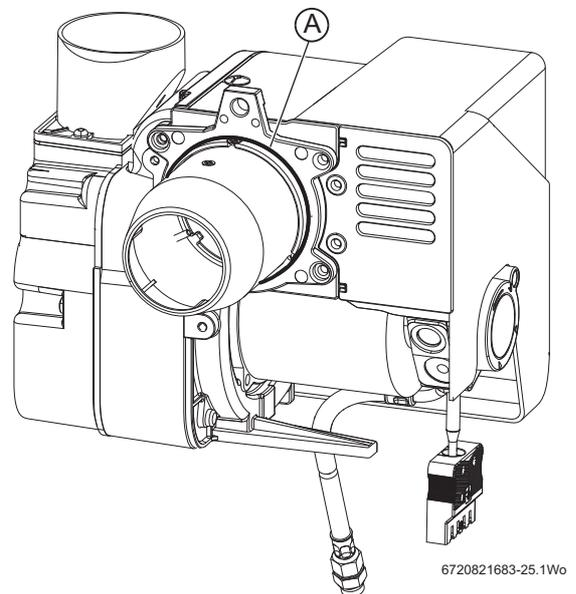

Fig. 79 18/25 and 25/32 Burner O-ring seal shown
- ▶ Always check that the O-ring seal (Fig. 79 item A) is in good condition before fitting the burner. Replace the O-ring seal if defective.